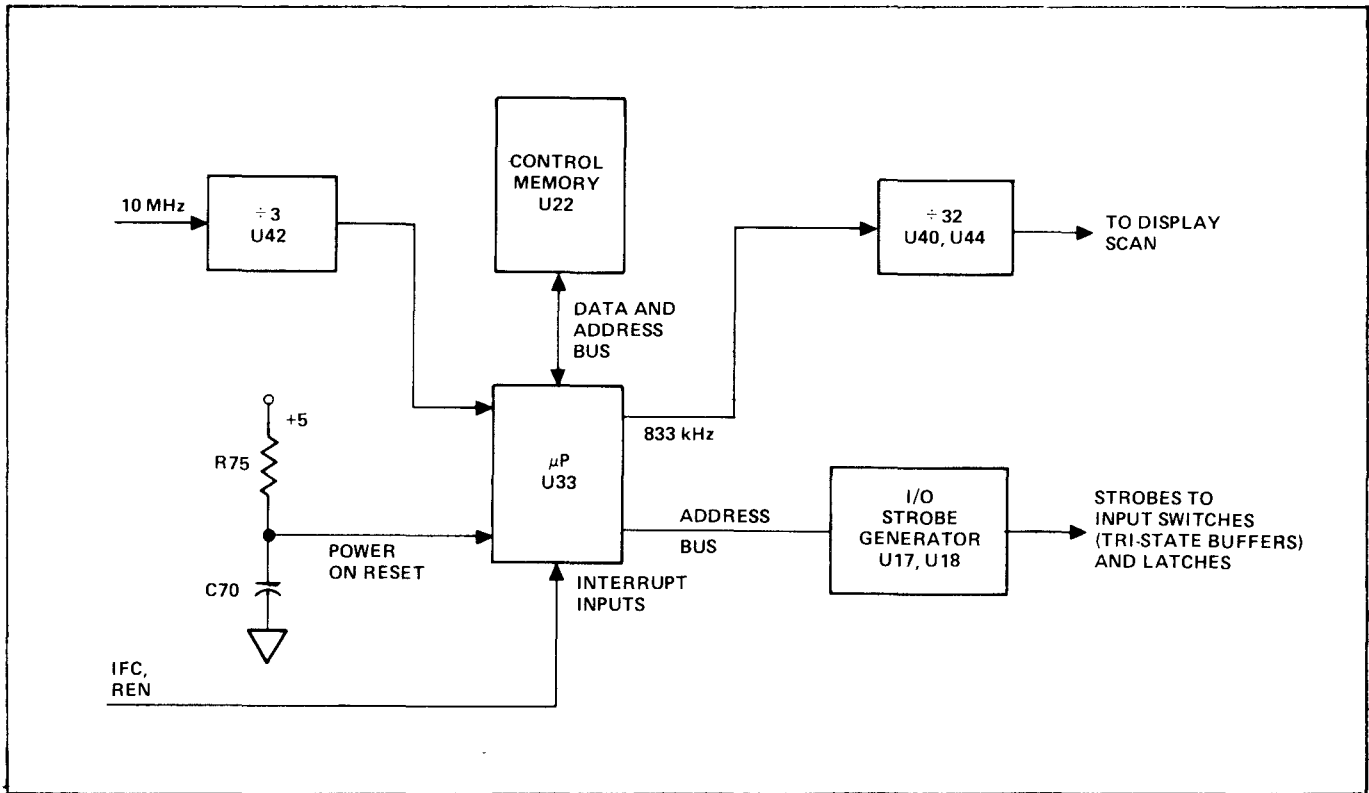

Figure 1.44 - Microprocessor Simplified Block Diagram
1.5.2.1 Figure 1.44 shows a simplified block diagram of the microprocessor section and associated circuitry. Upon the application of power, the microprocessor's reset input remains low for the time that it takes capacitor C70 to charge up to the threshold of the reset input. At that time, the microprocessor receives program information from U22 and executes a predetermined sequence of steps. The clock for the microprocessor ( $\mu$ P) is derived from the instrument's 10 MHz reference through a divide-by-three circuit. The clock for the display scan circuitry (U9 on main logic board) derives its clock by dividing the enable output of the  $\mu$ P by 32, and thus synchronizing the scan frequency of the display to the execution cycle of the  $\mu$ P.